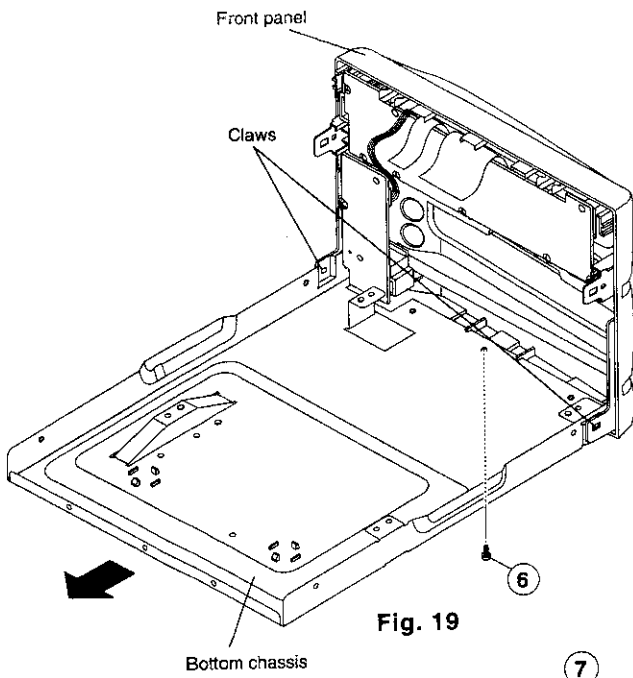

Fig. 19
(1) Remove 4 screws ⑧ from the bottom chassis.
6. **Removal of Bottom Chassis (Fig. 19)**